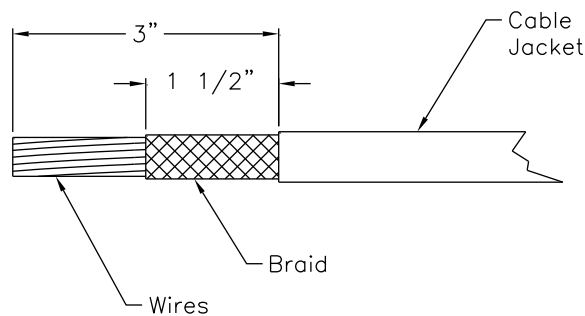

Figure 6: Stripping of I/O Cables
4. Strip the jacket off the cable(s) 3" from the end and remove the braid 1.5" from the end (see Figure 6).
as pigtail) is not an effective method of shielding and can actually make things worse (see Figure 6).